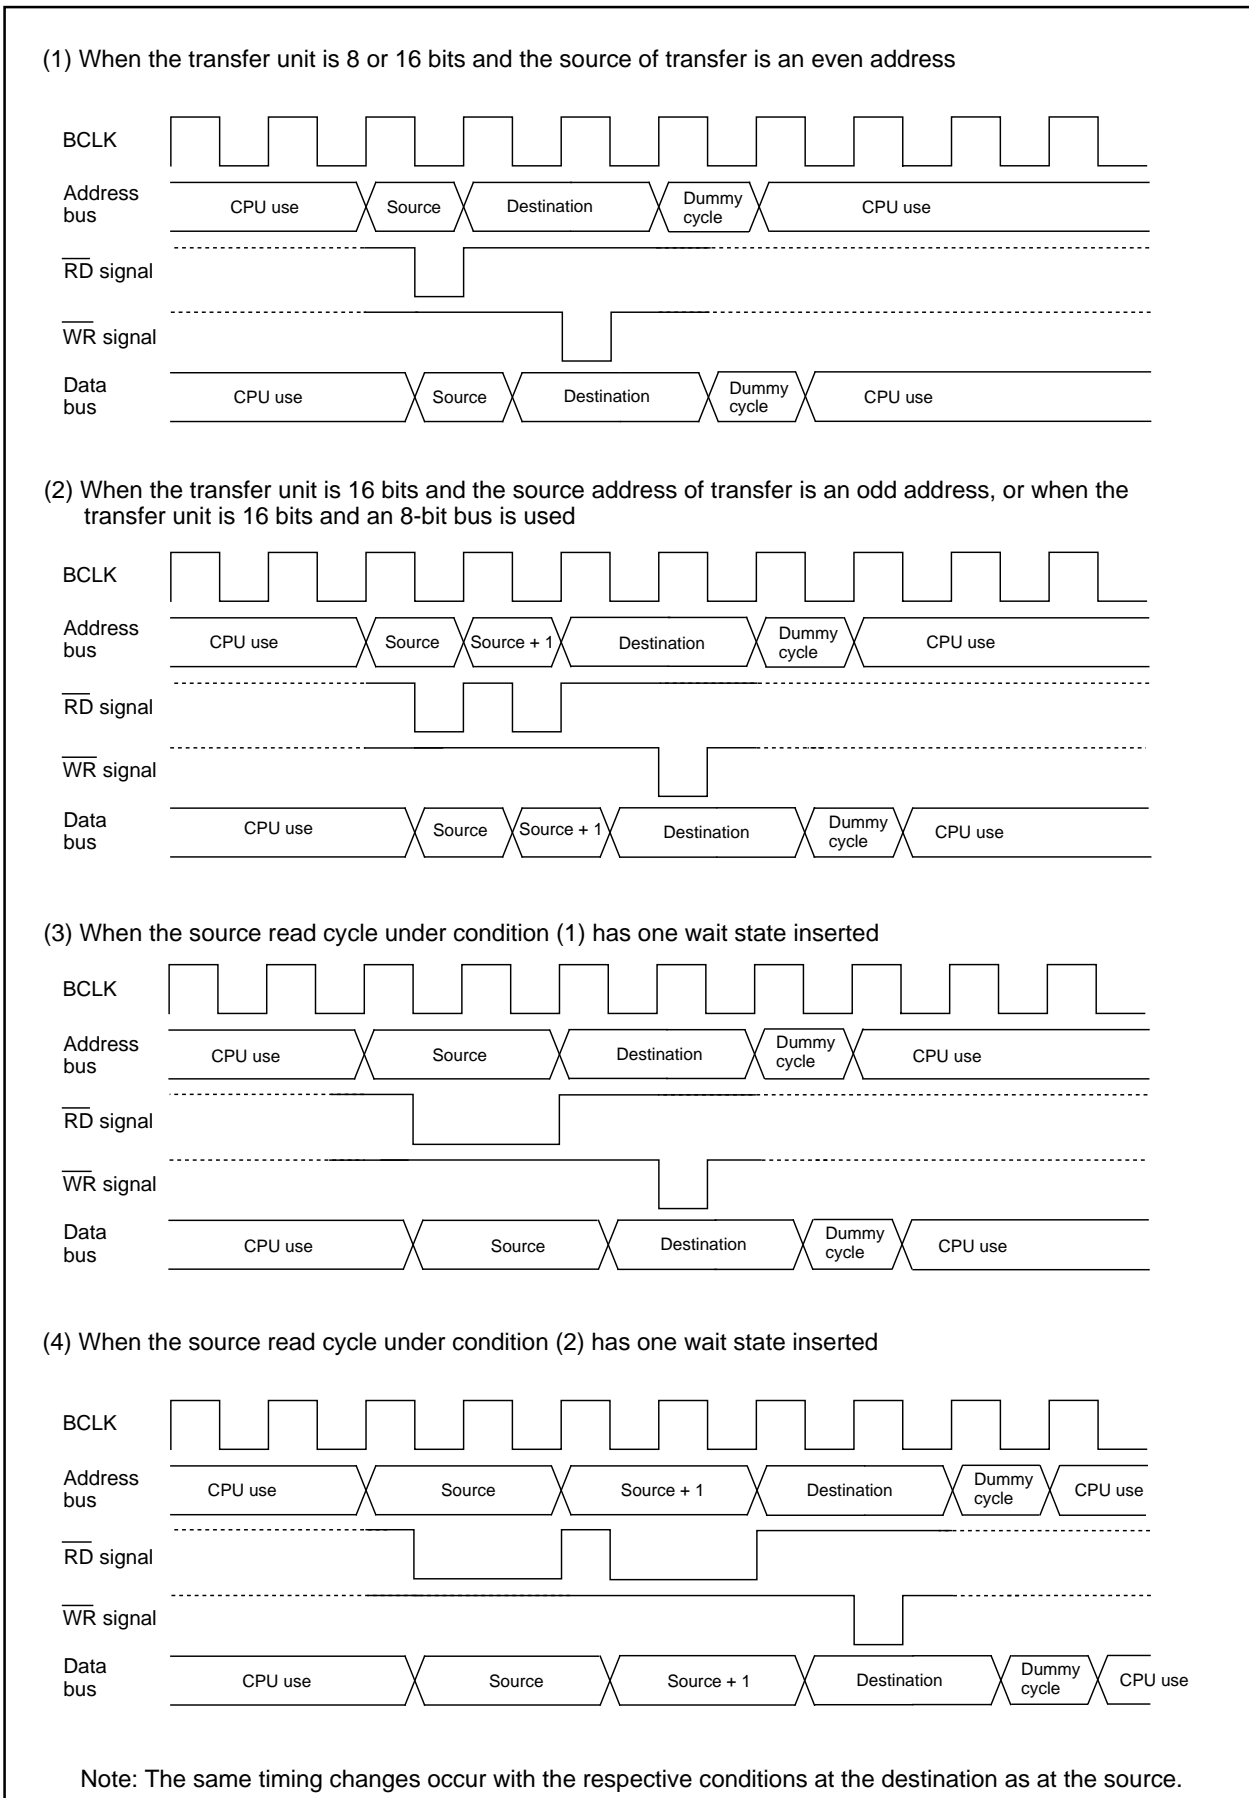

Figure 1.13.5. Transfer Cycles for Source Read
Figure 1.13.5 shows the example of the cycles for a source read. For convenience, the destination write cycle is shown as one cycle and the source read cycles for the different conditions are shown. In reality, the destination write cycle is subject to the same conditions as the source read cycle, with the transfer cycle changing accordingly. When calculating transfer cycles, take into consideration each condition for the source read and the destination write cycle, respectively. For example, when data is transferred in 16 bit units using an 8-bit bus ((2) in Figure 1.13.5), two source read bus cycles and two destination write bus cycles are required.